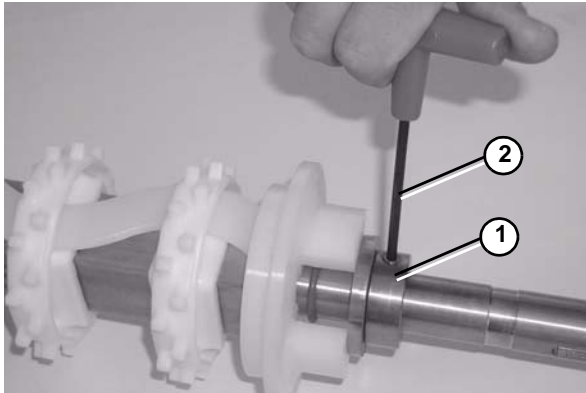

Figure 74
7. Slide the retaining ring (**Figure 74, item 1**) onto the drive spindle. Leave a slight gap between ring and washer to allow flanged puck to spin freely.
8. Tighten the retainer ring fastener using a hex wrench (**Figure 74, item 2**).